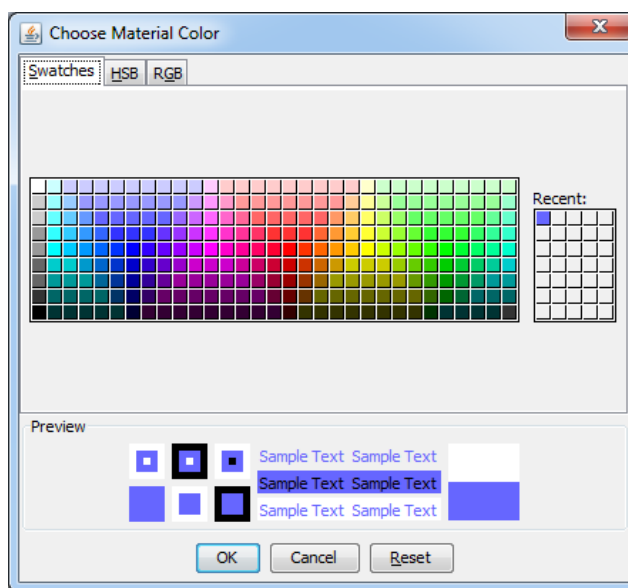

Figure 3: Choose Material Color - Swatches window.
- **Choose Material Color – Swatches (Figure 3).**